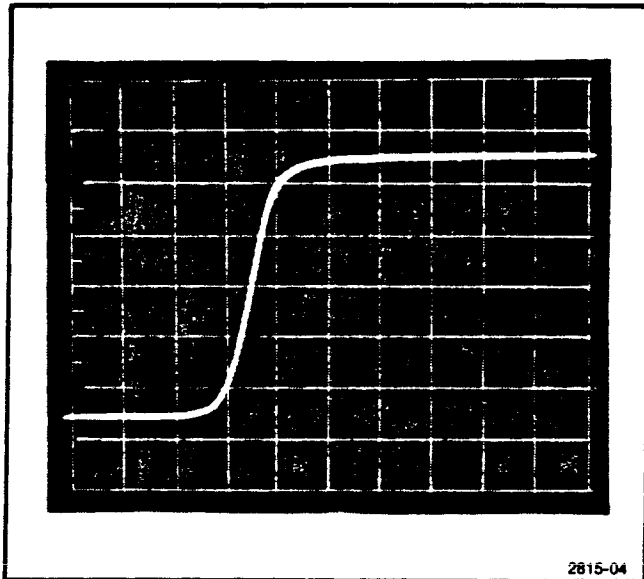

Fig. 5-4. Typical waveform for positive and negative low edge aberration checks.
g. CHECK—that the risetime of the displayed edge is less than 1.3 ns, with minimum aberrations (see Fig. 5-4).
h. ADJUST—A7C1621, Low Edge Comp (+), to obtain a risetime less than 1.3 ns and minimum aberrations (similar to Fig. 5-4).
l. ADJUST—A7C1721, Low Edge Comp (—), to obtain a risetime less than 1.3 ns and minimum aberrations (similar to Fig. 5-4).